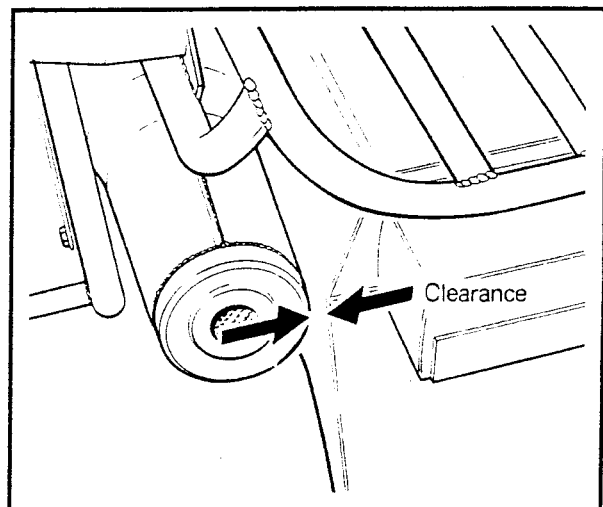

Figure 5-36. Rear fender/Exhaust Area
1. The rear fender is fastened to the frame at four points by screws, nuts and washers (23).
3. See Figure 5-36. Installation is the reverse of the removal procedure, but check that the exhaust heat protection rubber (25) is in place to hold the fender clear of the exhaust. Install the tail lamp cable through the holes in the fender using cable ties.